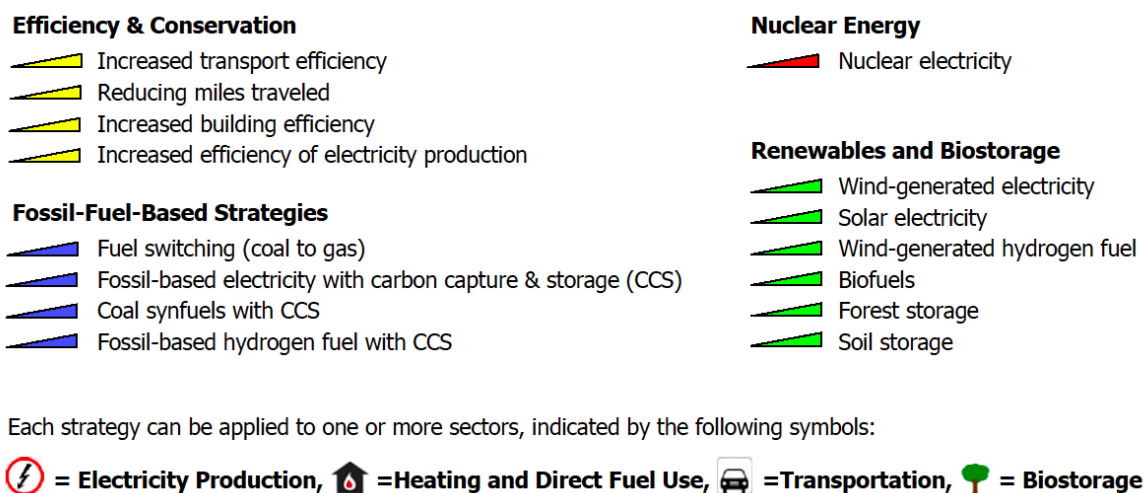

Figure 4: Graphic of the 15 wedges from the Stabilization Wedges game, with their colors by category.
There are 15 well-researched strategies already available that could be scaled up over the next 50 years to reduce global carbon emissions by 1 billion tons per year, or one wedge. They are grouped into four major color-coded categories as seen in Figure 4. You can find more details about each wedge and the calculations that go into it in the Appendix.
- Shade each wedge with the appropriate color related to the category of the mitigation strategy which the wedge represents based on Fig. 4.